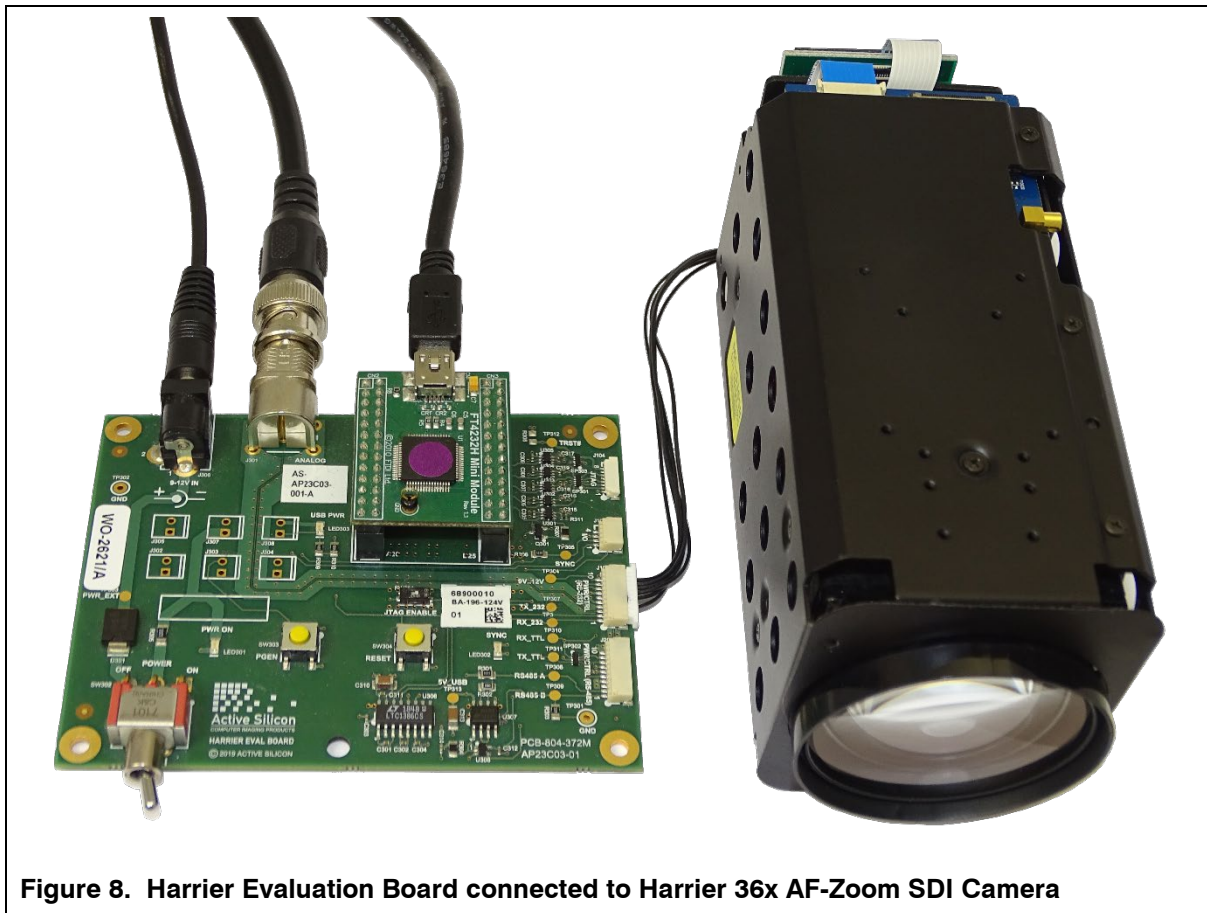

Figure 8. Harrier Evaluation Board connected to Harrier 36x AF-Zoom SDI Camera
To get the Harrier AF-Zoom SDI camera running, follow the instructions below (also see figure 8):
2. Connect the 10-way wire cable from the FFC breakout board to the Harrier Evaluation Board I/O connector (J103). See figure 8.
Connect the Harrier AF-Zoom SDI camera to the Harrier Evaluation Board, ensure that the USB cable is connected to the PC as shown in figure 8. Power-up the camera.